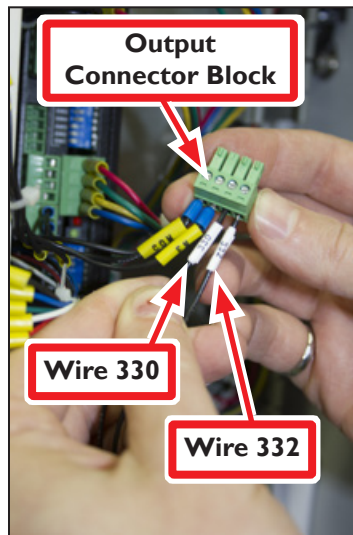
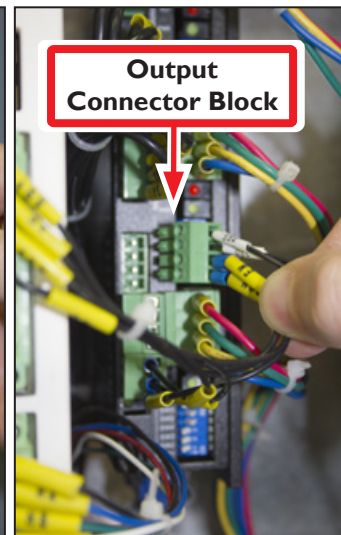

Figure 6
Figure 7
3. Connect wire 330 and wire 332 to the Output Connector Block in open locations shown in **Figure 6**; re-connect assembly to Control Module (see **Figure 7**).